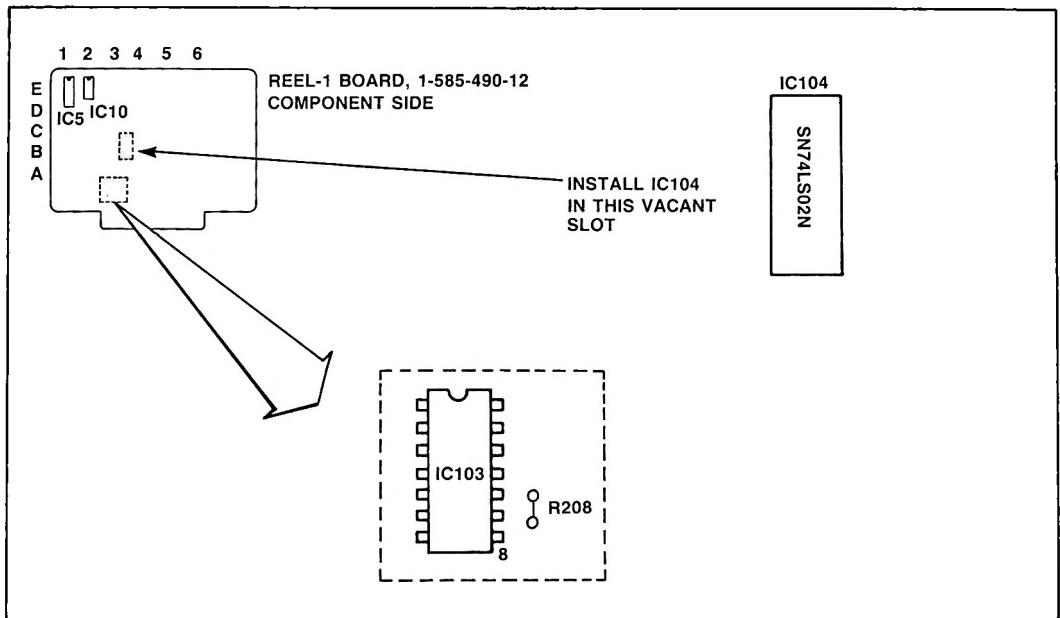

Figure 2
2. Add new IC104 to unused area designated IC12. (See Figure 2.)